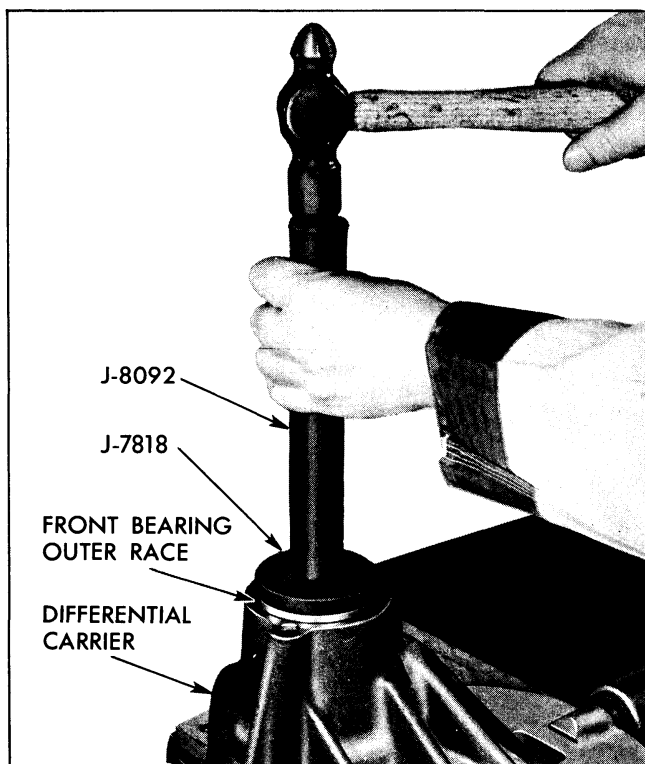

Fig. 4-45 Installing Front Bearing Outer Race with J-7818 and J-8092
5. Using J-8092 and J-7818, drive outer race of front pinion bearing until firmly seated in cavity (Fig. 4-45).
2. Remove nicks and burrs with mill file (Fig. 4-45).